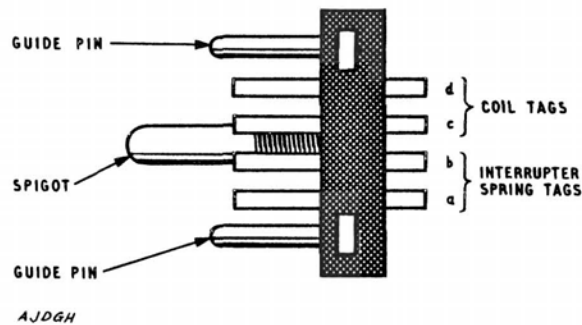

FIG. 11
To enable self-drive tests to be made, make the following connections to the tags of the jack (Fig. 11):-
**25. Coil and interrupter spring tag lay-out.** Fig. 11 shows the lettering of the coil and interrupter spring tags.